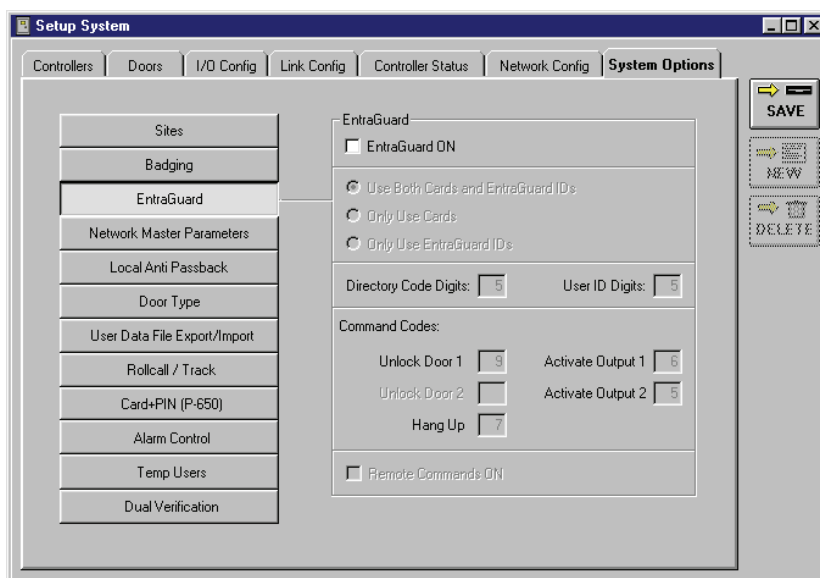

Figure 10-1: System Options Tab - EntraGuard Disabled
2. Click on the  button. The System Options window will reveal the EntraGuard field where EntraGuard options may be set (see Figure 10-1).